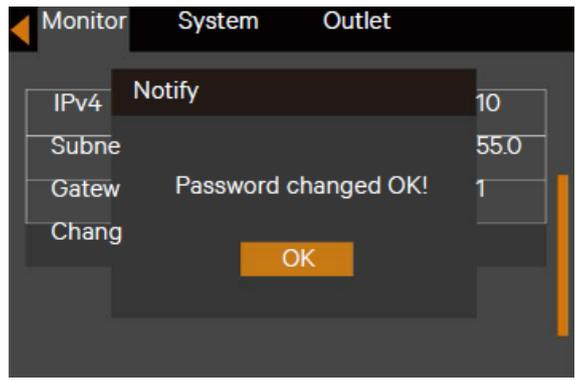

Figure 5-20 Password changed ok
2. Press the key, then press the key to select the 'Change settings password', see Figure 5-20.